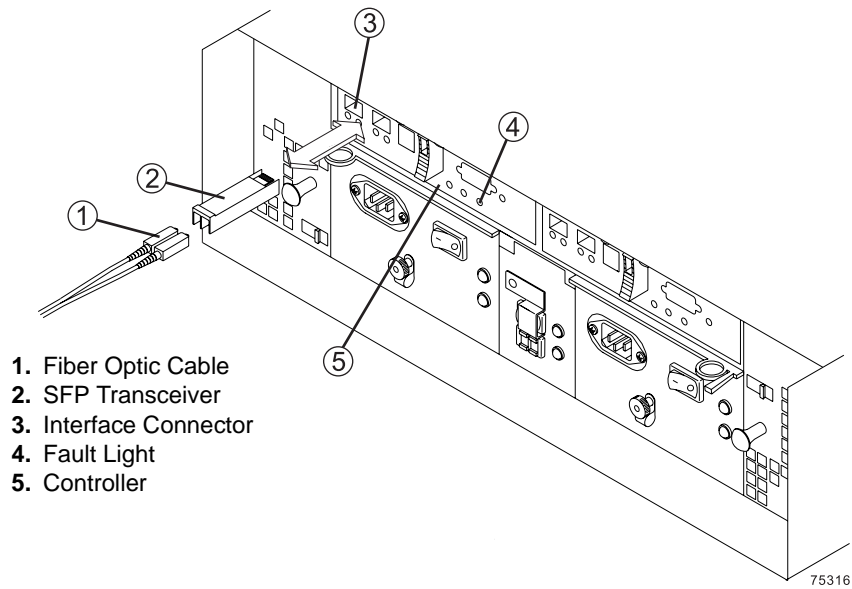

Figure 4-1 Removing an SFP Transceiver and Fiber Optic Cable
- 7 Check the Fault lights to locate the failed controller. On the failed controller, the amber fault light will be illuminated. Figure 4-1 on page 4-3 shows the location of the fault light.
- 16 Reconnect the SFP transceivers and attach the host interface cables and drive interface cables to their original locations. Figure 4-1 on page 4-3 illustrates connecting an SFP transceiver.